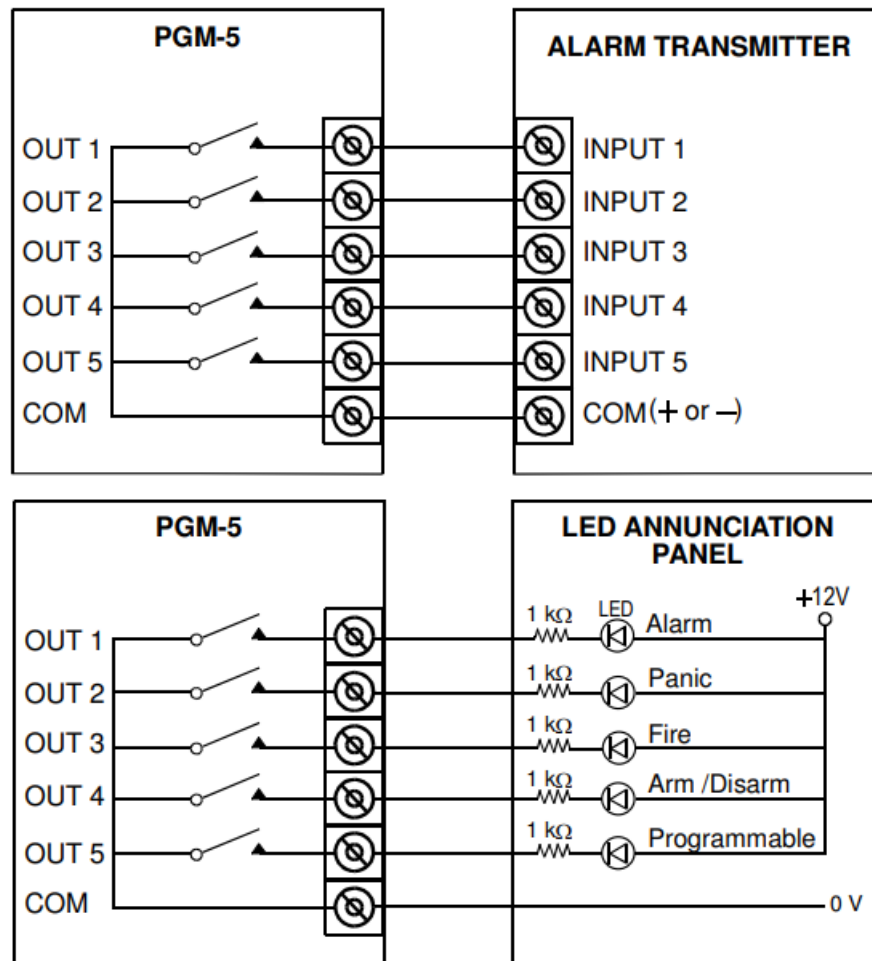

Figure 3 – Electrical Wiring of PGM-5 Module and Alarm Transmitter/ LED Annunciation Panel
To use the PGM-5, follow the installation instructions provided in the user manual. The PGM-5 must be connected to an alarm transmitter and to a LED Annunciation Panel. The electrical wiring diagrams provided in the manual (Figure 3) can be used as a reference for proper connection. Once the PGM-5 is installed, it will provide 5 solid-state relay contact outputs that can be used for various purposes such as long-range wireless monitoring transmitters, CCTV systems, home-automation systems, LED annunciation panels, etc. Note that each output has a specific normal state and will change its state upon occurrence of an event or change of status. The event type and the corresponding output are listed in table 2. If using the PGM-5 with PowerMaster control panels v18 and above, it is required to enable or disable the PGM-5 via the Installer Mode. For detailed instructions on how to do this, refer to the PowerMaster Installer Guide. To summarize, to use the PGM-5:
- Figure 3 displays electrical wiring diagrams where the PGM-5 module is connected to an alarm transmitter and to a LED Annunciation Panel.